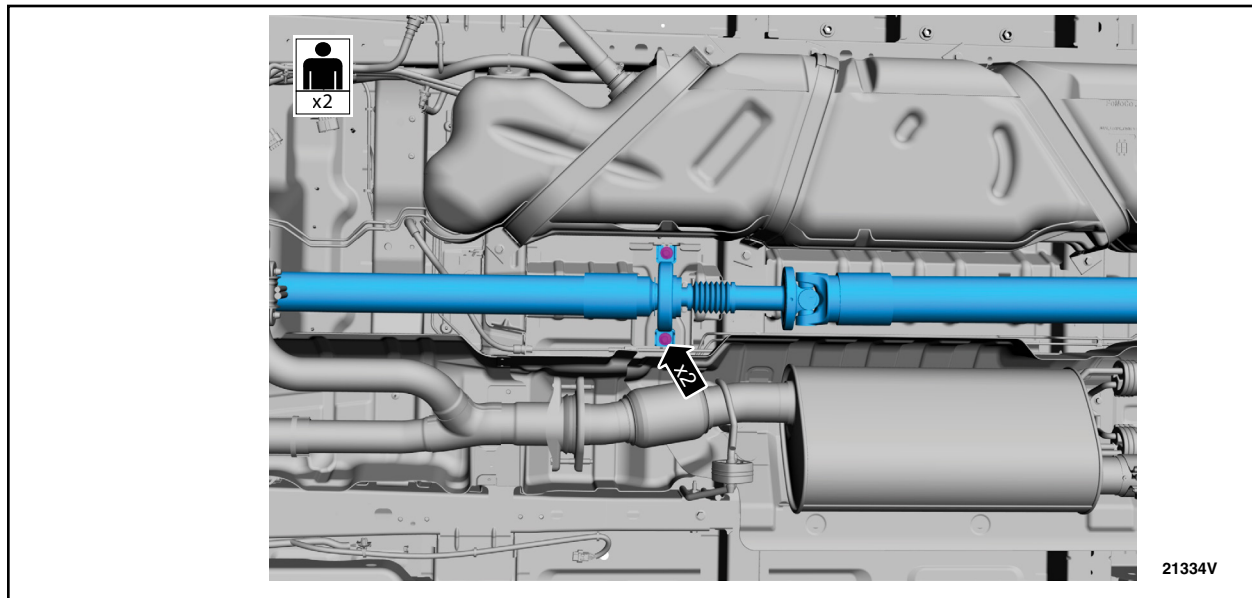
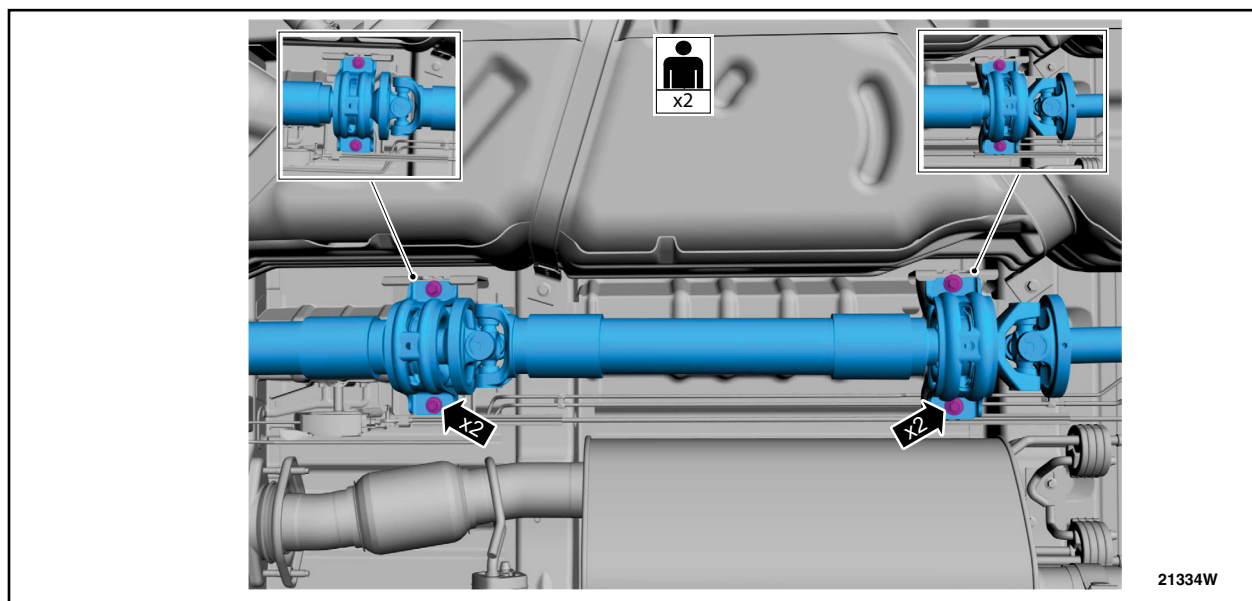

FIGURE 21
FIGURE 22
32. Install the driveshaft and the new driveshaft center bearing bolts. See Figure 21 for Medium Wheel base. See Figure 22 for Long Wheelbase.